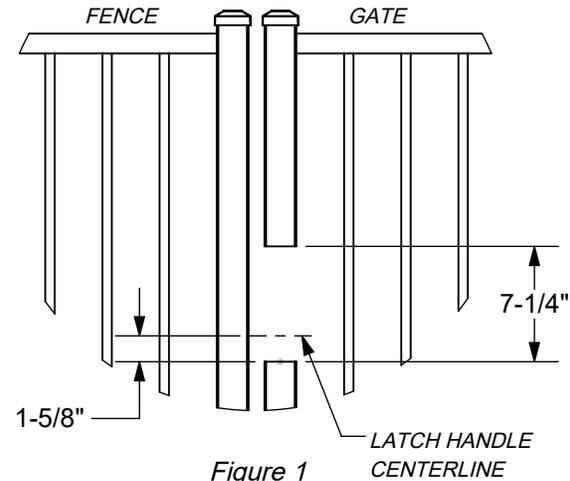

Figure 1
- 2) Mark a lower cut line on the gate frame 1-5/8" below the latch handle centerline, and mark an upper cut line 7-1/4" above the lower cut line. Cut out a section of the frame at the marked location to create space for the gate box to be installed (Figure 1).